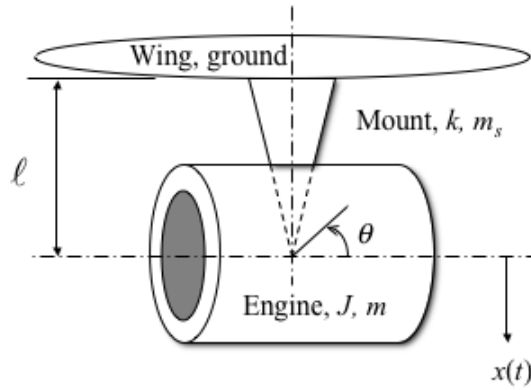

Figure P1.86
- 1.86** Use Lagrange's formulation to calculate the equation of motion and the natural frequency of the system of Figure P1.86. This figure represents a simplified model of a jet engine mounted to a wing through a mechanism which acts as a spring of stiffness k and mass m_s . Assume the engine has inertia J and mass m and that the rotation of the engine is related to the vertical displacement of the engine, $x(t)$ by the "radius" r_0 (i.e. $x = r_0 q$).